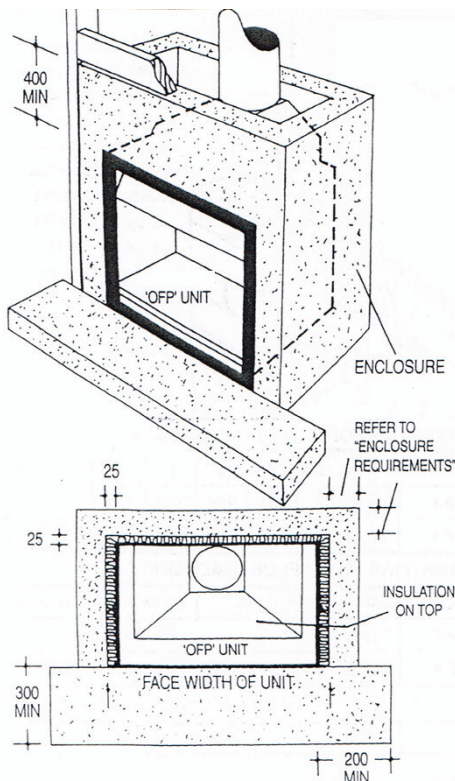

Fig 2.
Enclosure Requirements. (Fig 2.)
The enclosure must completely surround the sides, back and breast above the unit, as shown in Fig 2.
4. Construct enclosure as required and place the insulation provided on top of unit, gather and below optional brickwork lintel. (Refer minimum requirements, Enclosures Fig 2.)